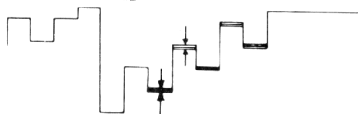

Figure 4-2: PL504 Alignment
- 5) After changing the PATTERN into the PAL COLOUR BAR signal, adjust PL504 so that the fluctuation may be minimum and a straight line as shown in figure 4-2.